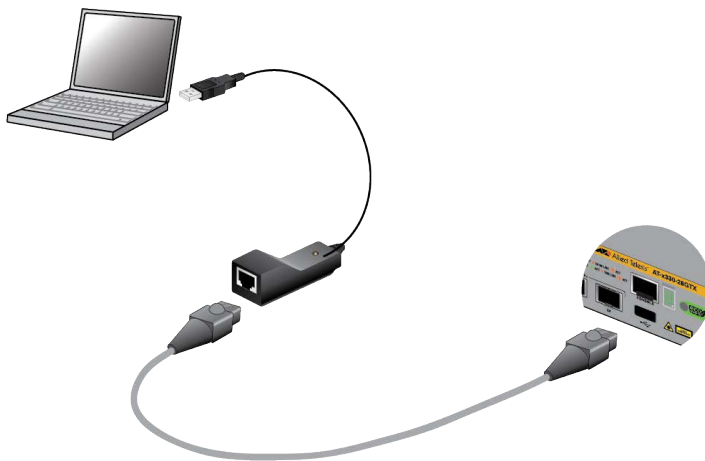

Figure 70. Local Management with the VT-Kit3 Management Cable
- ❑ If your computer has a USB port, use a USB-to-Serial converter. To use the VT-Kit3 from Allied Telesis, connect the USB connector on the VT-Kit3 to a USB port on your computer or terminal. To connect the kit to the Console port on the switch, use a standard, straight-through Ethernet cable. Refer to Figure 70.